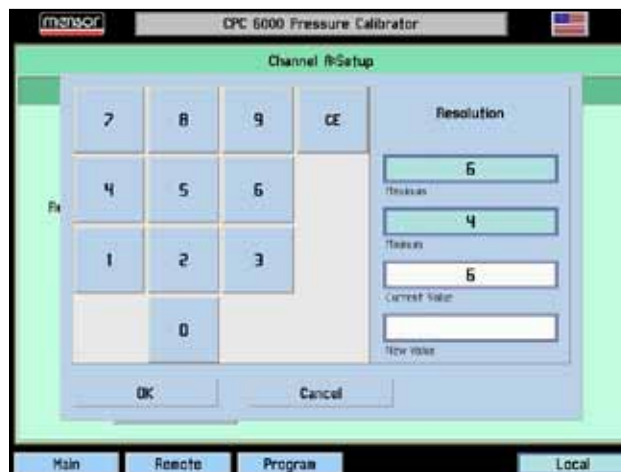

Figure 6.6.2B - Resolution Window
**Resolution:** The Resolution [value] key allows the user to enter the number of significant digits that will be displayed on the operate screen. See Figure 6.6.2B.